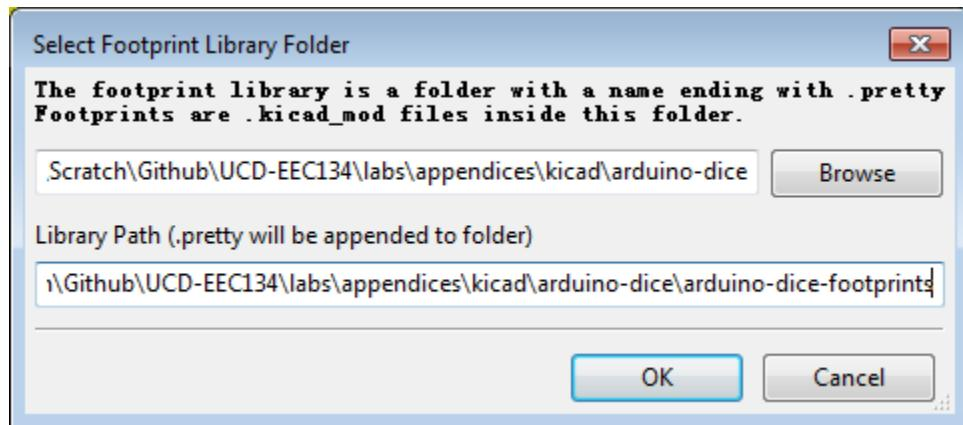
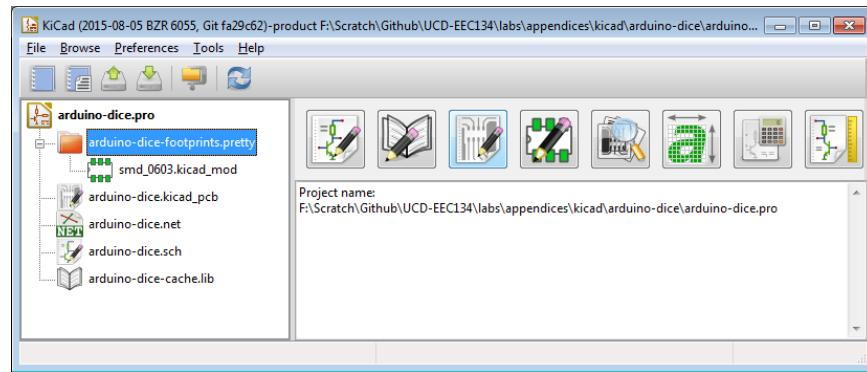

Figure 15: The “Select Footprint Library Folder” dialog box.
Figure 16: The new footprint library is now visible in the project tree.
- We wish to create a new library to contain our newly created footprint. To do this, click the “Create new library and save current module” icon. Set the location and name of the library and click “OK”. The “Library Path” field should contain the full path to your desired library location. In this example, we will create a footprint library with the name “arduino-dice-footprints” (KiCad will automatically add the “.pretty” suffix) under the project folder “...\\arduino-dice”. Fig. 15 shows the proper settings. At this point, a new folder named “arduino-dice-footprints.pretty” should appear in the project tree in the KiCad main window (Fig. 16). Click on the “+” sign will expand the library and show all the footprints in this library; in this case, we only have the “smd\_0603” footprint.